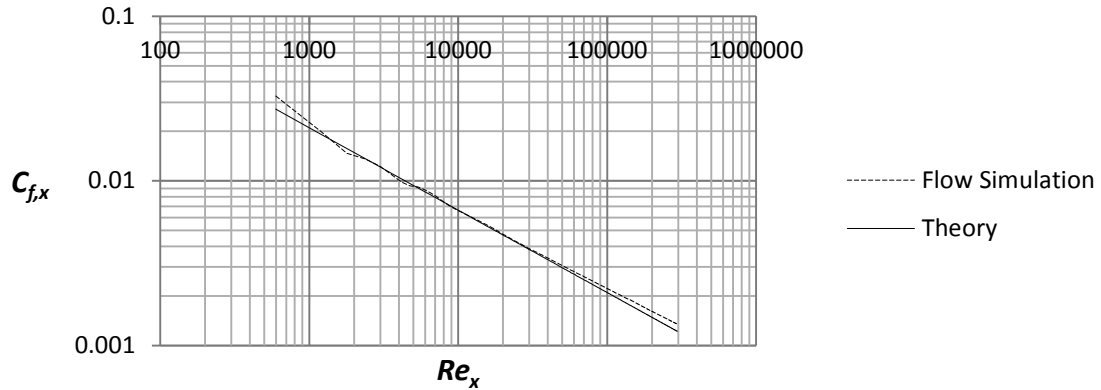

Figure 2.26 Local friction coefficient as a function of the Reynolds number
Place the file “**graph 2.26**” on the desktop. Repeat step 24 but this time choose the sketch $x = 0 - 0.9 \text{ m}$, uncheck the box for **Velocity (X)** and check the box for **Shear Stress**. Use the file “**graph 2.26**” to create Figure 2.26. Rename the xy-plot to **Local Friction Coefficient**. Figure 2.26 shows the local friction coefficient versus the Reynolds number compared with theoretical values for laminar boundary layer flow.